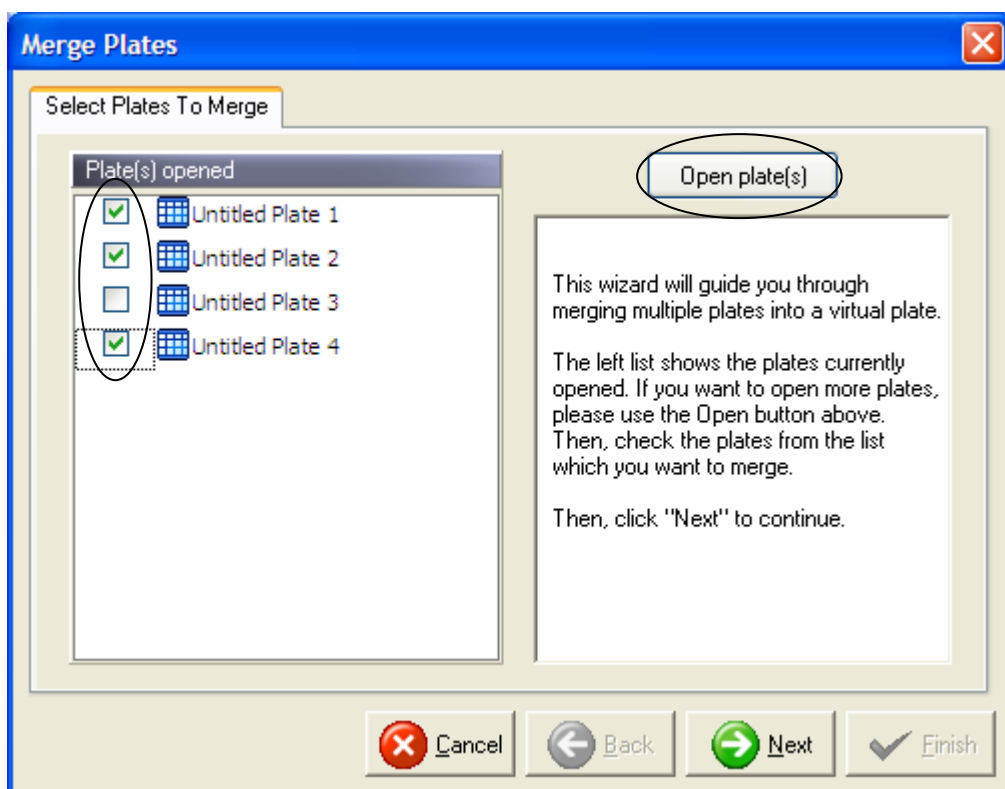

Figure 6.14 Selecting plates
2. You will see a list of plate names which are currently opened (Figure 6.14). If you want to add more plates to merge, you can click Open button to load more plates. Then, you need to check the plates to be merged from the list, and go to the next page.